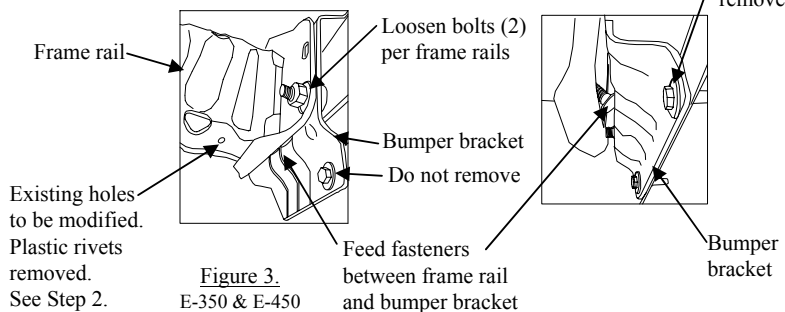

Figure 3.
2. If present (E-350 & E-450) remove any plastic rivets from (see Figure 3) forward attachment on vehicle. Fold plastic between plastic covering and frame rail.